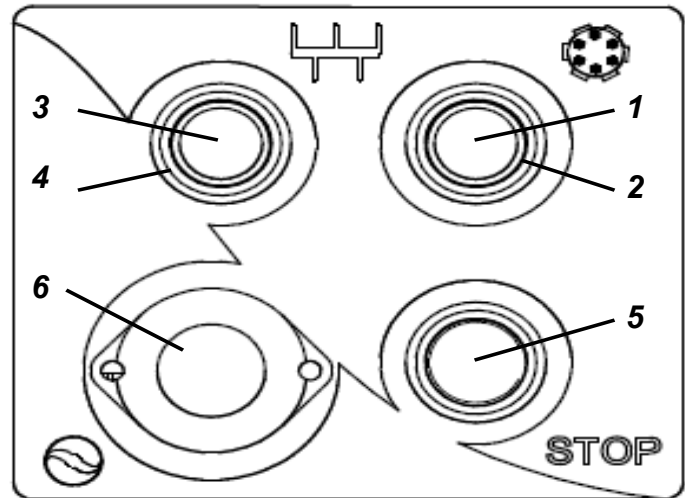

Fig. 3.1.1
1 - Start mixer button (1 fig. 3.1.1)
2 - When the button is pressed, the LED gets lit (2 fig. 3.1.1) and it will remain so throughout the mixing process.
3 - Start extruding button (3 fig. 3.1.1)
When the button is pressed, the LED gets lit (4 fig. 3.1.1) and it will remain so throughout the extruding process.
Connect the plug to the mains and press the start button (3 Fig. 3.1.1). The machine gets enable in extruding mode; ensure the spiral direction of rotation is counter-clockwise.
5.3 - Checking the effectiveness of the emergency button (5 fig. 3.1.1)
When machine is connected to the mains and tools are in movement, press the shut down button (5 Fig. 3.1.1). The machine must shut down.
5.4 - Machine start up (1 or 3 fig. 3.1.1)
After having properly connected the machine to the mains, push the mixing button (1 Fig. 3.1.1) or push the extruding button (3 Fig. 3.1.1), to have the machine started up.
5.5 - Machine shut down (fig. 3.1.1)
To shut down the machine, push the shut down button, "5" Fig. 3.1.1.
3. Start the machine in mixer mode by means of the button "1" (Figure 3.1.1)
4. Start the motor fan by means of the air vent switch "7" (Figure 3.1.1)
2. Start the machine in mixer mode by means of the button 3 (fig 3.1.1)
- 2 Insert connector "2" (Fig. 6.4.1) into connector "6" (Fig. 3.1.1).